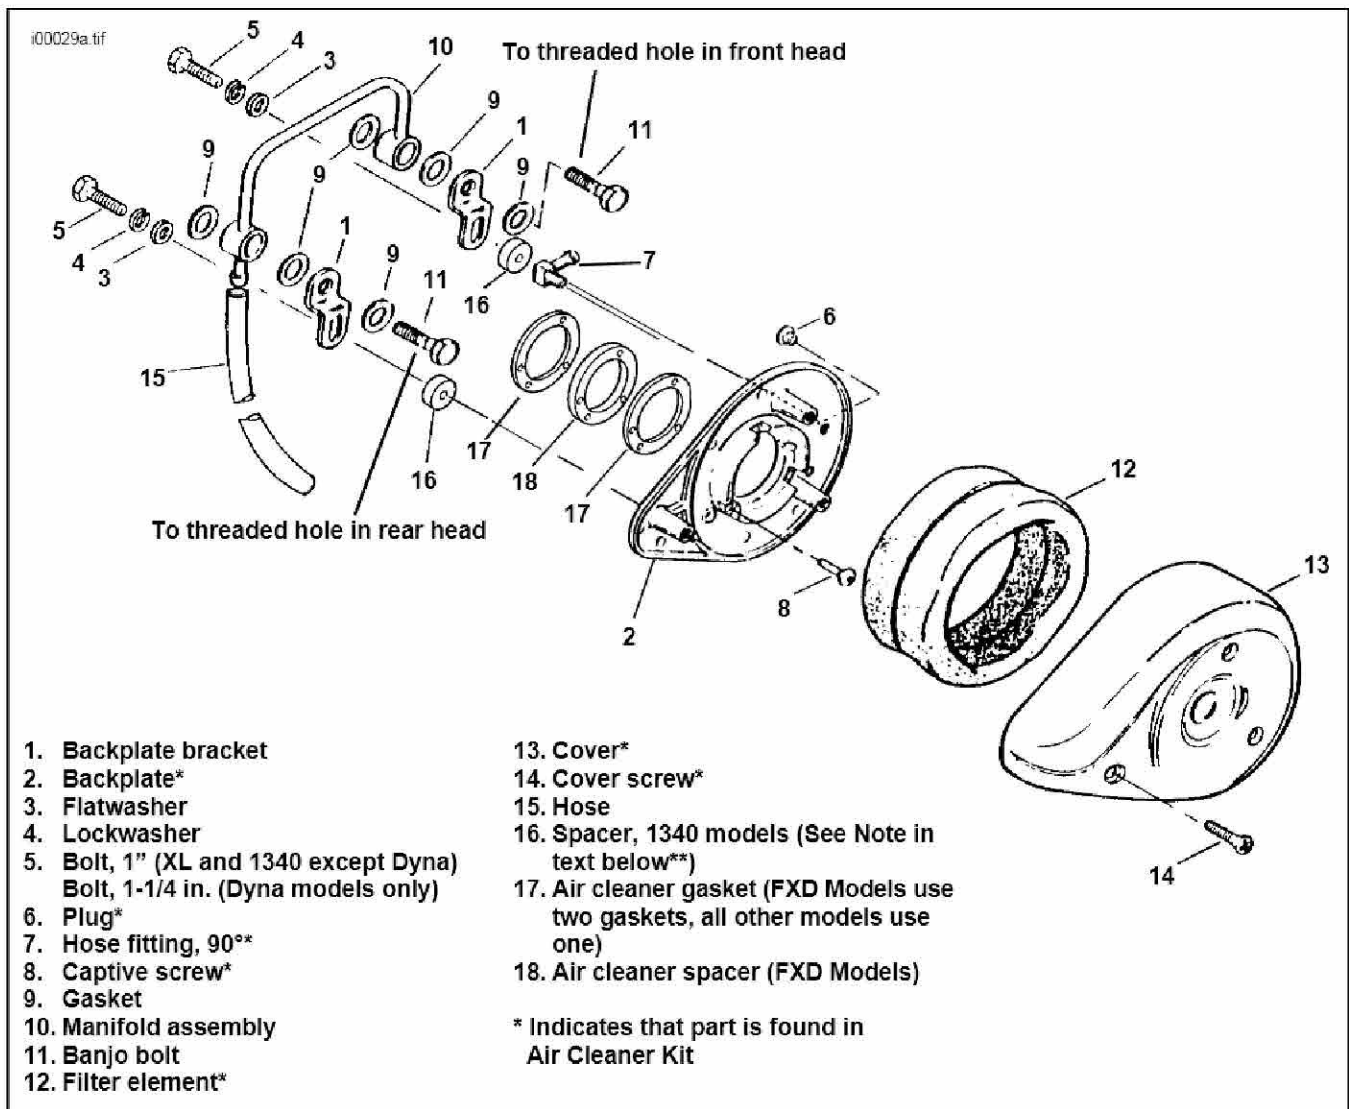

Figure 2. Air Cleaner Mounting Bracket Kit - 1991 and Later XL and 1993 and Later 1340 Models
1. See Figure 2. Remove rubber plug from lower tapped hole of backplate and install 90° fitting. Vent hose will be connected later.